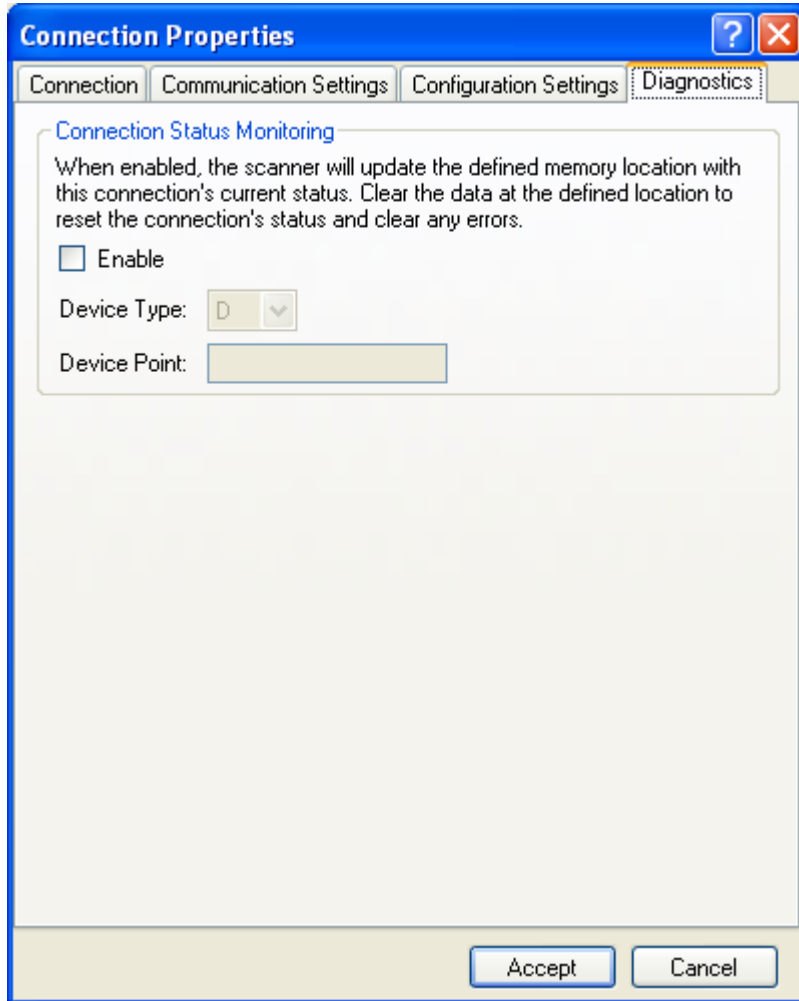

Figure 41: Connection Properties Diagnostics
Review and configure the Connection Properties. The Connection Properties are configured with the default settings as specified by the device EDS file. Please consult the device vendor for more information regarding configuration data. Refer to Figure 37, Figure 39, Figure 40, and Figure 41.
6. Configuration of Diagnostics is optional (refer to Figure 41). It is highly recommended to enable Diagnostics to initially determine if the connection is successful.